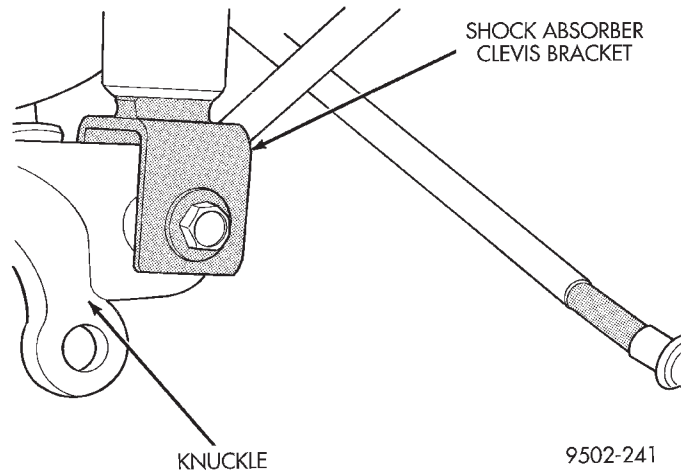

Fig. 16 Shock Absorber Attachment To Knuckle
(12) Remove the shock absorber clevis bracket to knuckle attaching nut and bolt (Fig. 16).
(13) Remove the knuckle assembly from the vehicle.
(1) Install knuckle on clevis bracket of rear shock absorber. Then install clevis bracket to shock absorber attaching bolt with head of bolt facing rear of vehicle (Fig. 16).